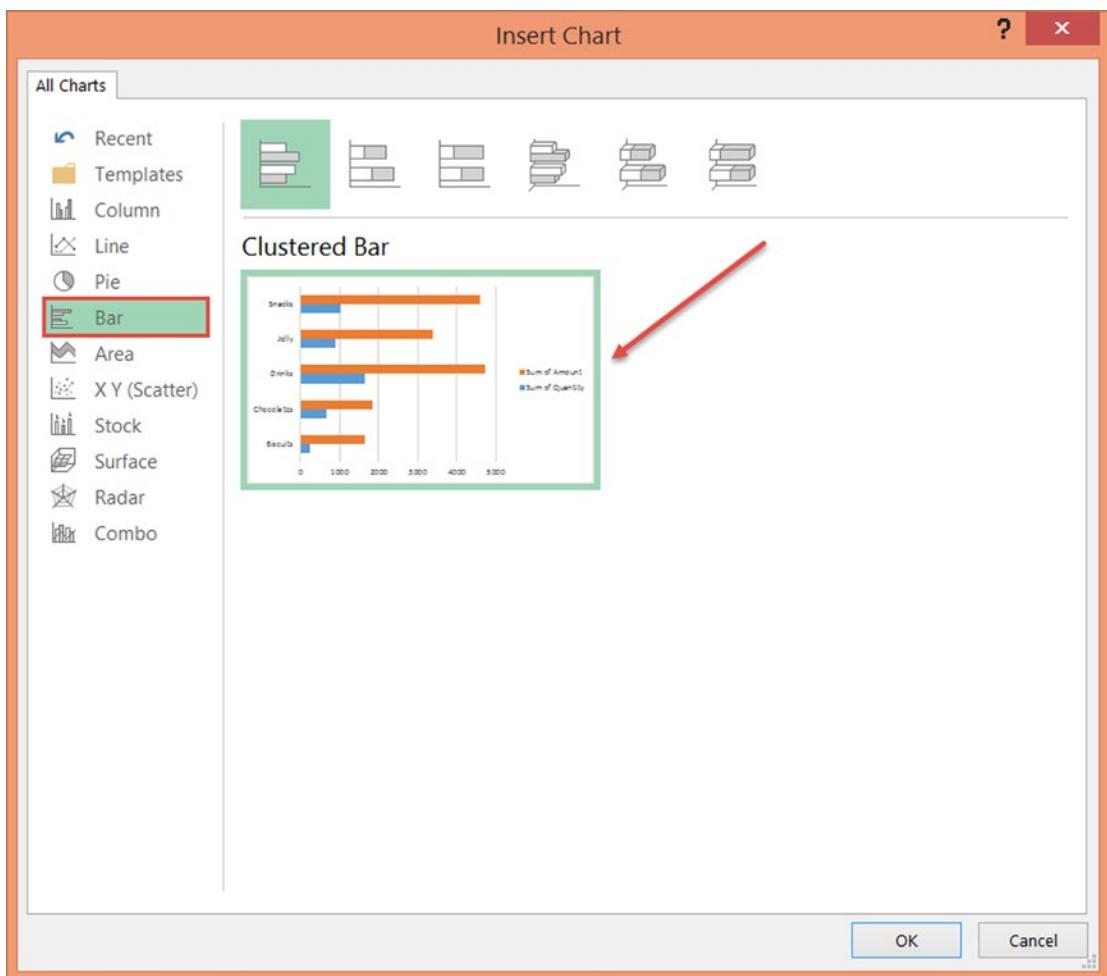

Figure 22-12. Creating a clustered bar chart type of pivot chart
3. Set the pivot chart type to Bar (refer to Figure 22-12)